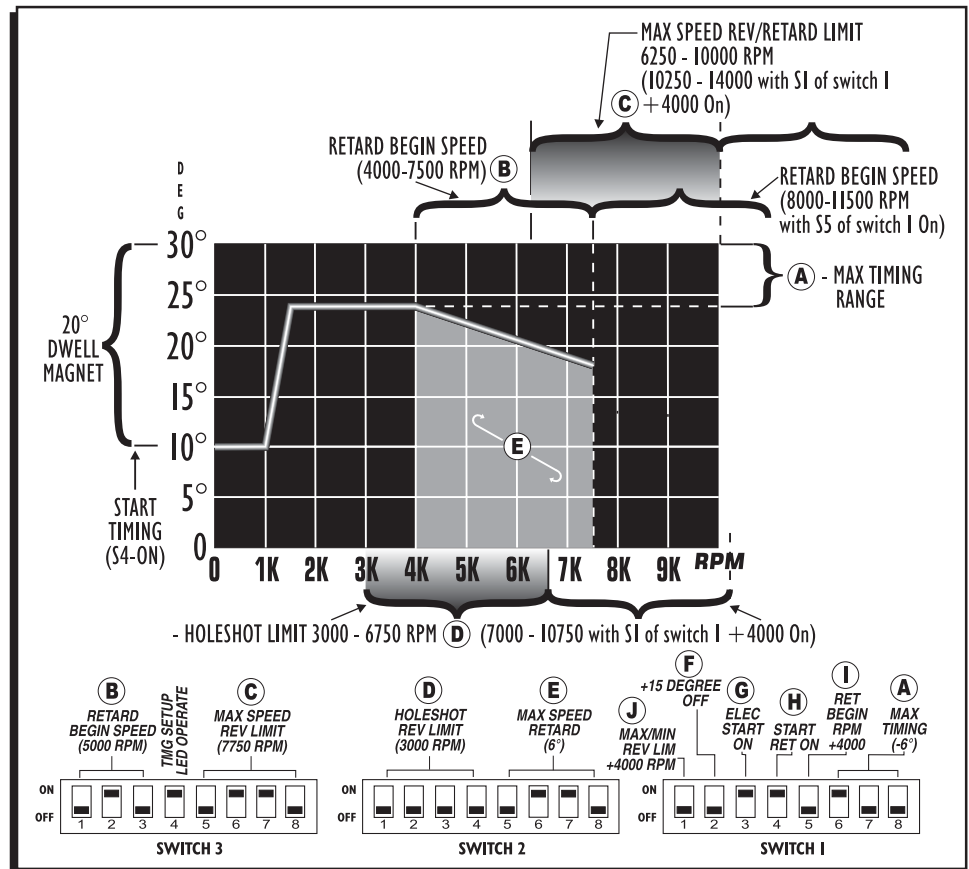

Figure 13 Adjusting the Timing Programs.
1. The "Retard Begin Speed" (B) Figure 13 is the point in the rpm range when the timing retard begins.
2. The "Total Retard" (E) Figure 13 is the total amount of timing retard (in crankshaft degrees) introduced between the retard begin point and the Rev Limit point.
3. The "Rev Limit" (C) Figure 13 is the point in the rpm range where maximum safe engine rpm limit is set and where the timing retard ends at.
Refer to Figure 13 for location of each switch. The LED indicated timing is the actual maximum run timing, if S6, S7, and S8 of switch 1 are set to On/On/On.